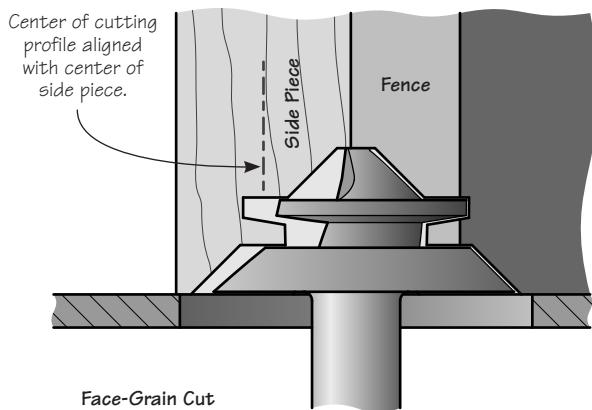

Figure 12: Setting the fence position.
4. Using the trial pieces, create an end-grain and face-grain cut representing the front/back and sides of the drawer, respectively. Note that each piece is routed with the fence in the same location, as shown in **Figures 12** and **13**.